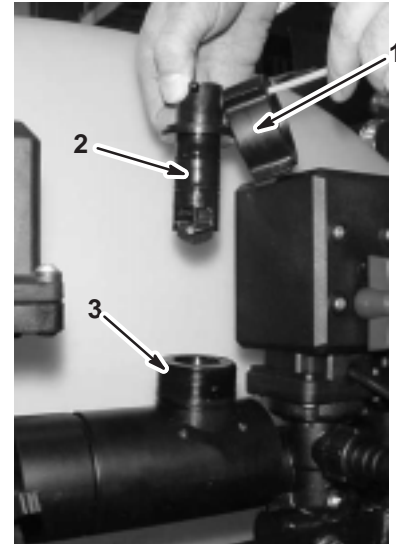

Figure 57
2. Remove the retaining cap from the flowmeter body (Fig. 57).